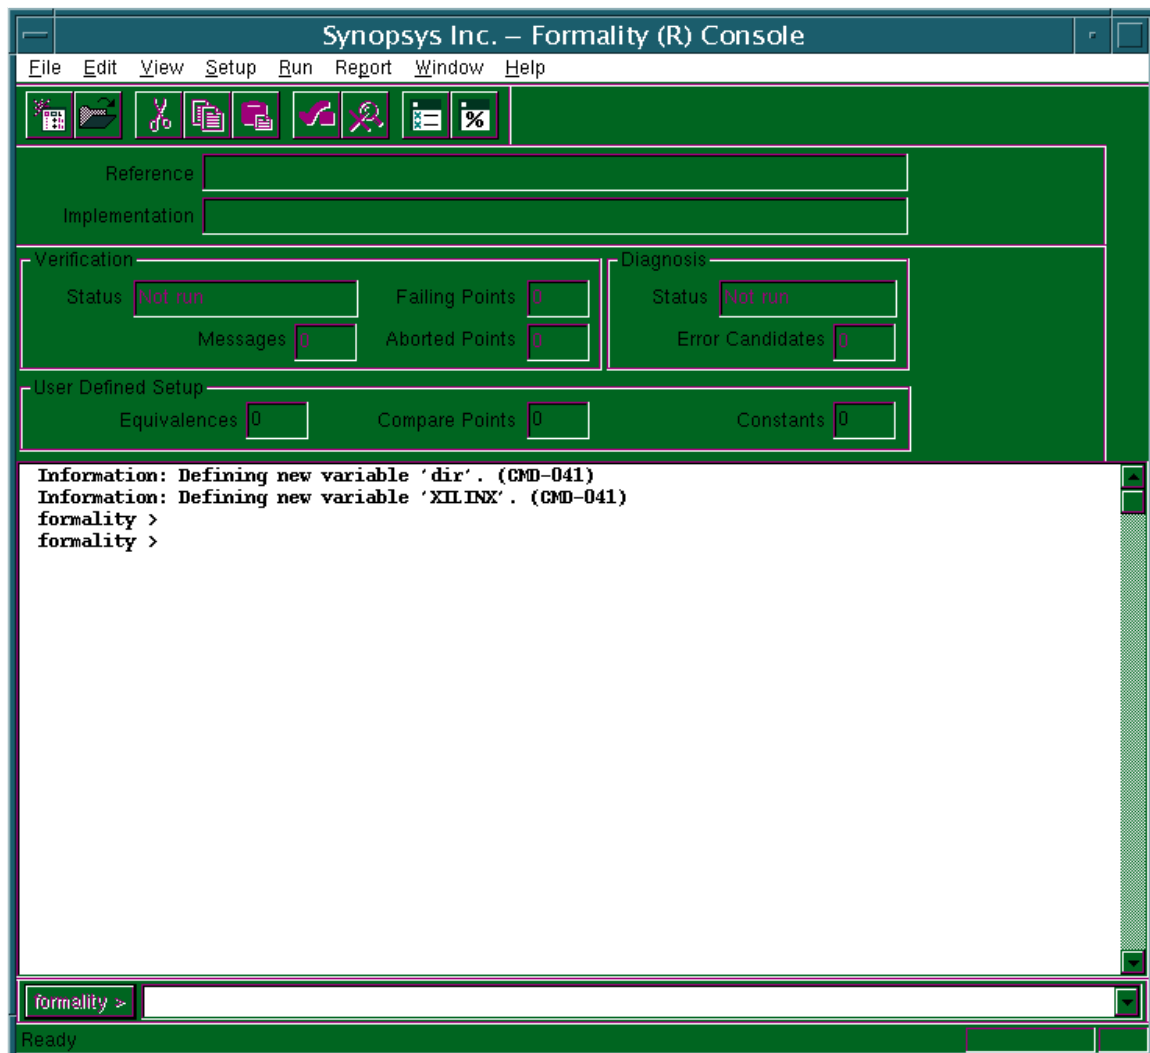

Figure 2: Formality Main GUI
2. Start up the GUI by typing "formality" at the Unix terminal prompt. The Formality GUI that comes up is shown in Figure 2.